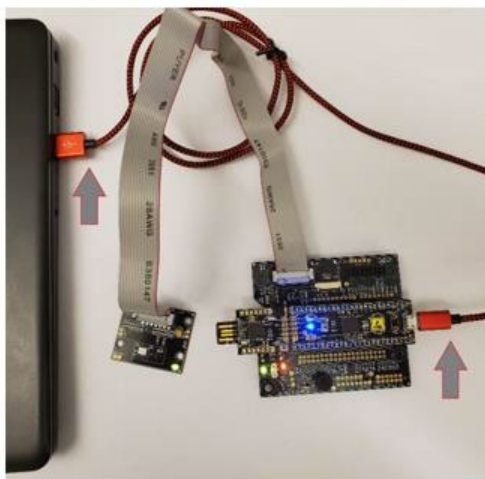
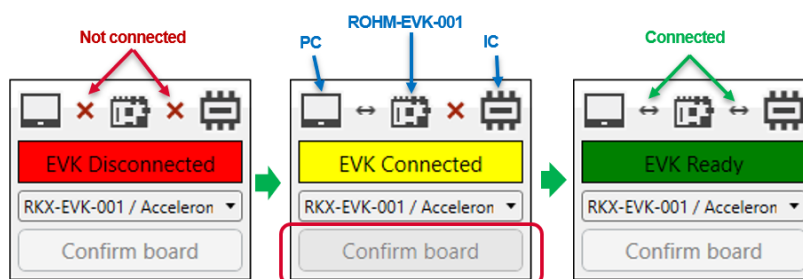

Figure 4 RKX-EVK-001 connection to PC
Figure 5 ROHM EVK GUI SW connection status
The following steps describe how to quickly take RKX-EVK-001 (Figure 4) with digital accelerometer quickly in use.
- From the Board menu, select "RKX-EVK-001 / Accelerometer EVB / I2C". The status of ROHM EVK GUI SW in the Sidebar is "EVK Disconnected". (Figure 5)
- Connect RKX-A3-EVK-001 to PC with USB cable (Figure 4) and wait for the status of the ROHM EVK GUI SW in the Sidebar to become "EVK Connected". (Figure 5) This indicates that ROHM EVK GUI SW has a connection with ROHM EVK FW.
- From the Sidebar (7.4.1), press "Confirm board" button (Figure 5). This will initialize ROHM EVK FW and the ROHM Product on the EVB. Wait for the status of the ROHM EVK GUI SW in the Sidebar to become "EVK Ready". (Figure 5)